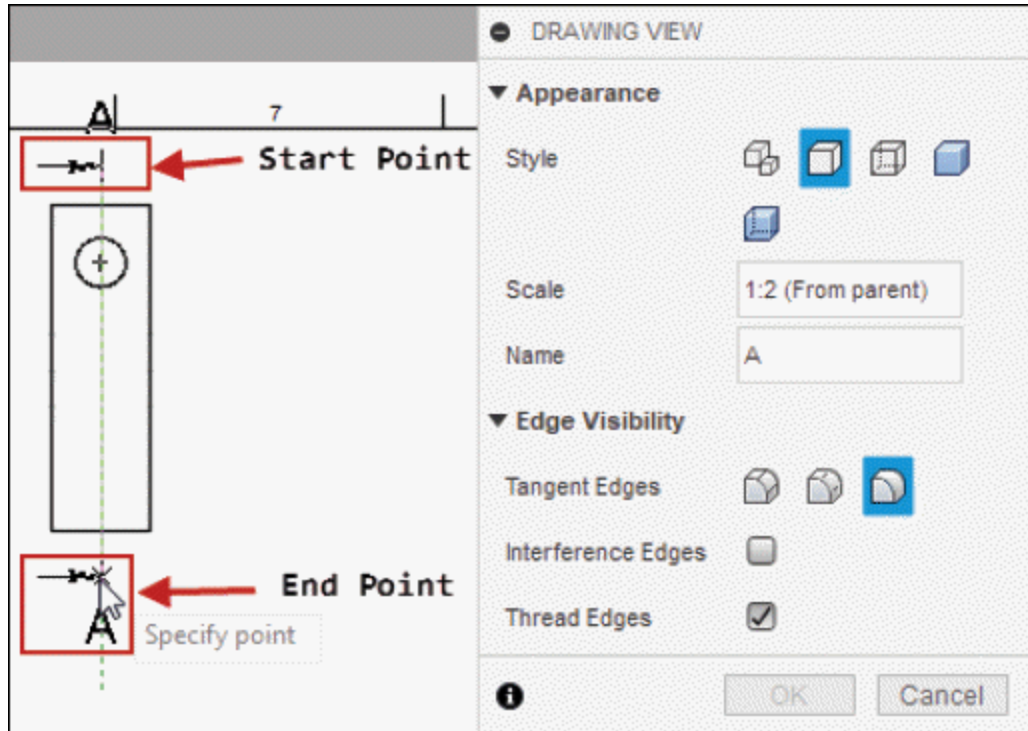

Figure-13. Creating section view
- You need to divide the selected parent view into two parts to create half section; refer to Figure-13.